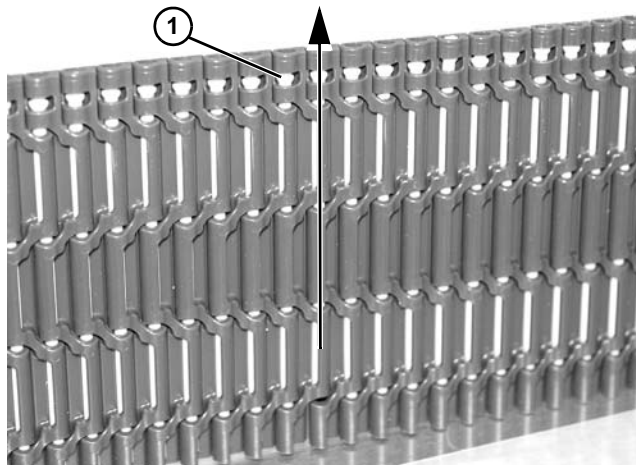

**Figure 109**
9. Remove four socket head screws (**Figure 109, item 1**) holding wear bar assembly (**Figure 109, item 2**) onto power transfer.